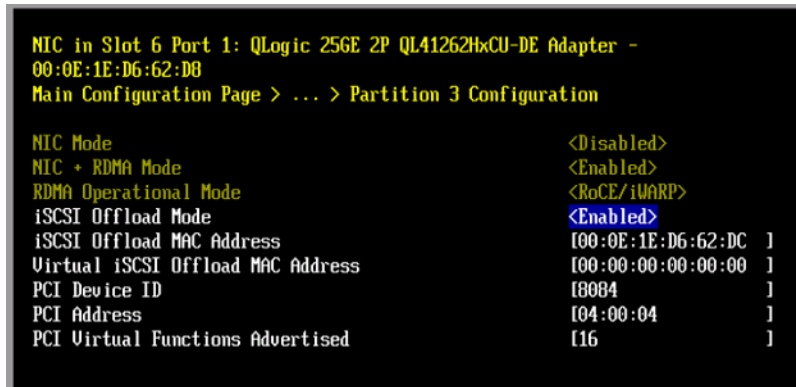

Figure 10-8. Enabling iSCSI Offload Mode in the BIOS
1. Using the BIOS interface, set iSCSI Offload Mode to **Enabled** (Figure 10-8).